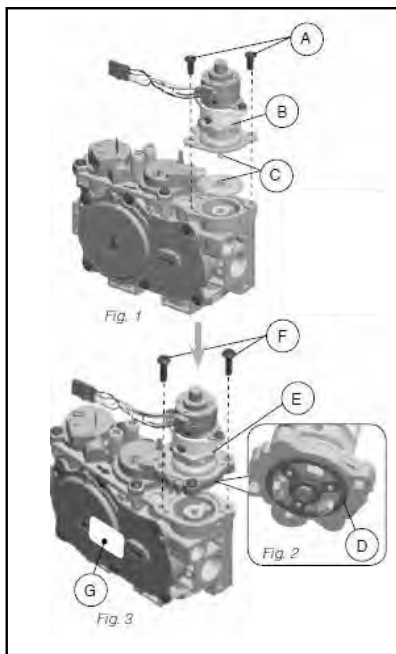

Figure 11: Stepper Motor Conversion
7. Convert the SIT gas valve (Figure 11):